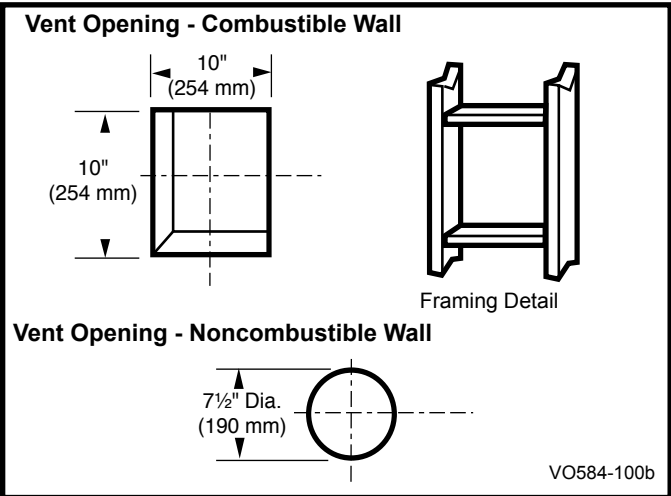

Fig. 21 Locate vent opening. **NOTE:** Zero clearance sleeve is required for combustible wall installations.
1. Locate the vent opening on the wall. Refer to Figures 20 & 21 to determine the top of the opening centerline. It may be necessary to first position the stove and measure to find the hole location. Depending on whether the wall is made of combustible materials, cut the opening to the size shown in Figure 21. Combustible wall openings must be framed as shown in Figure 21.